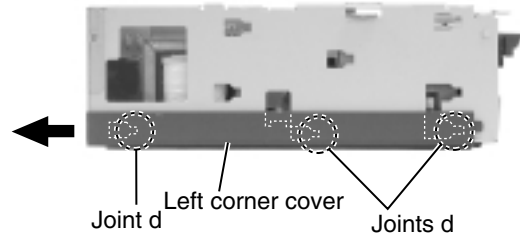

Fig.10
**■Removing the right and left corner covers (See Fig.10 and 11)**